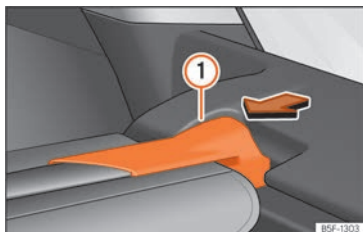

Fig. 126 In the luggage compartment: removing the shelf.
- Press the rear shelf support » **Fig. 126** **(1)** in the direction of the arrow.
- Engage the support of the rear shelf » **Fig. 126** **(1)** into the housing on the other side.